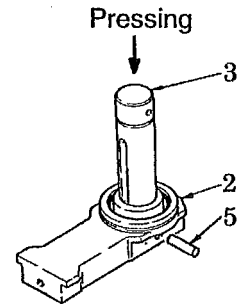

Fig. 5-10 Installing collar (2), shaft (3)
3) Installing collar (2) (See Fig. 5-10)